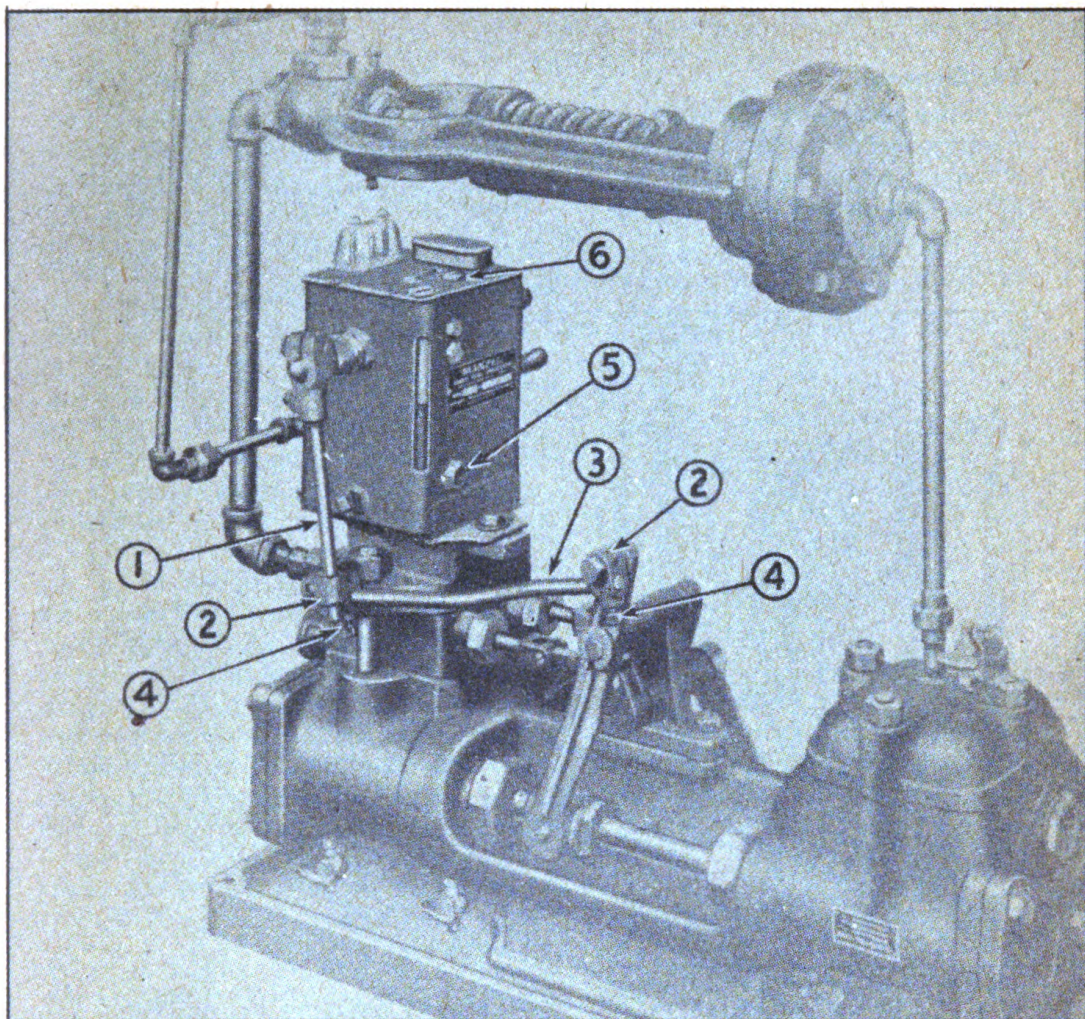

Fig. 8—Attaching the Lubricator Connections
25. Installation. (See fig. 8).
26. Heating Chamber. (See fig. 8).
27. Adjustment. (See fig. 8).
Break the pipe union in the lubricator pipe line. Mark lubricator arm (7) with a file at its present location in the two lubricator connections (2, fig. 8) so that it can be replaced in the same position as it was removed and not affect the lubricator pumping capacity. Loosen the lubricator connection set screw (8) and remove the lubricator arm, after it has been marked. Remove the two capscrews (9) holding the lubricator to the bracket (10). Remove the lubricator, but leave the bracket attached to the steam chest cover. Remove the two steam chest nuts (11) and lift off steam chest cover (12), taking care not to damage gasket. Remove coupling pins (13) and loosen gland nuts (14). Pull the valve rods (15) out of the steam chest, unscrewing valve rod nuts (16) as the rod is pulled out. This leaves the steam chest proper (17), lower chest gasket and the slide valve (18) free for removal.